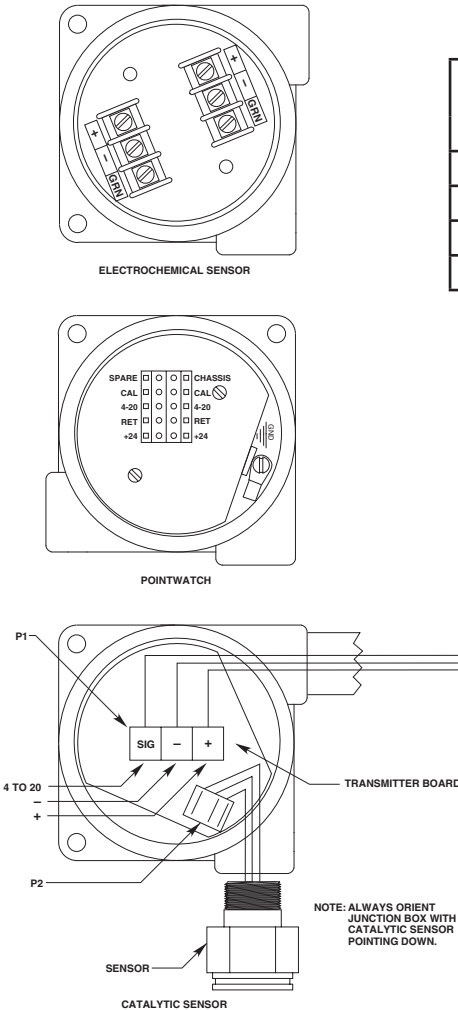

Figure 3-54—Sensor Separation Kits
*This assembly can be separated from the DCUEX by up to 1000 feet using three conductor 18 AWG shielded cable. (Regardless of separation distance, operating voltage at the transmitter must be at least 18 Vdc for proper device operation.) (See Figure 3-54.)*
- Use a three conductor 18 AWG shielded cable to connect P1 on the transmitter board to terminals 2, 3 and 4 on the DCU terminal board (See Figure 3-54). Connect the shield to the ground terminal in the DCUEX junction box.